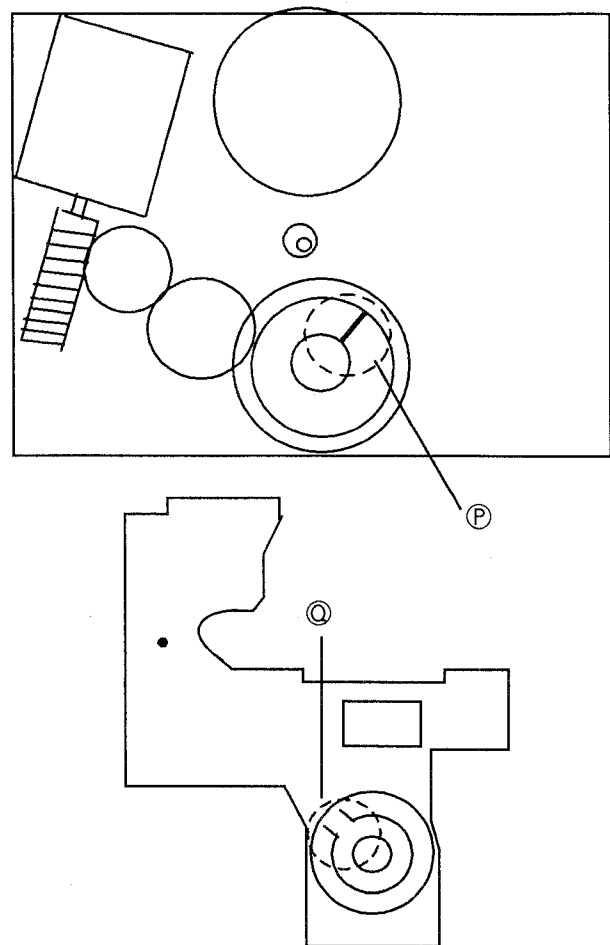

Fig. 11 Gear position
- (1) Remove the flywheels.
- (2) Release the hook fixing the cam switch PC Board and remove the PC Board.
- \* When installing the cam switch PC Board, assemble the PC Board so that the part  $\textcircled{P}$  meets part  $\textcircled{Q}$ . Fig. 11